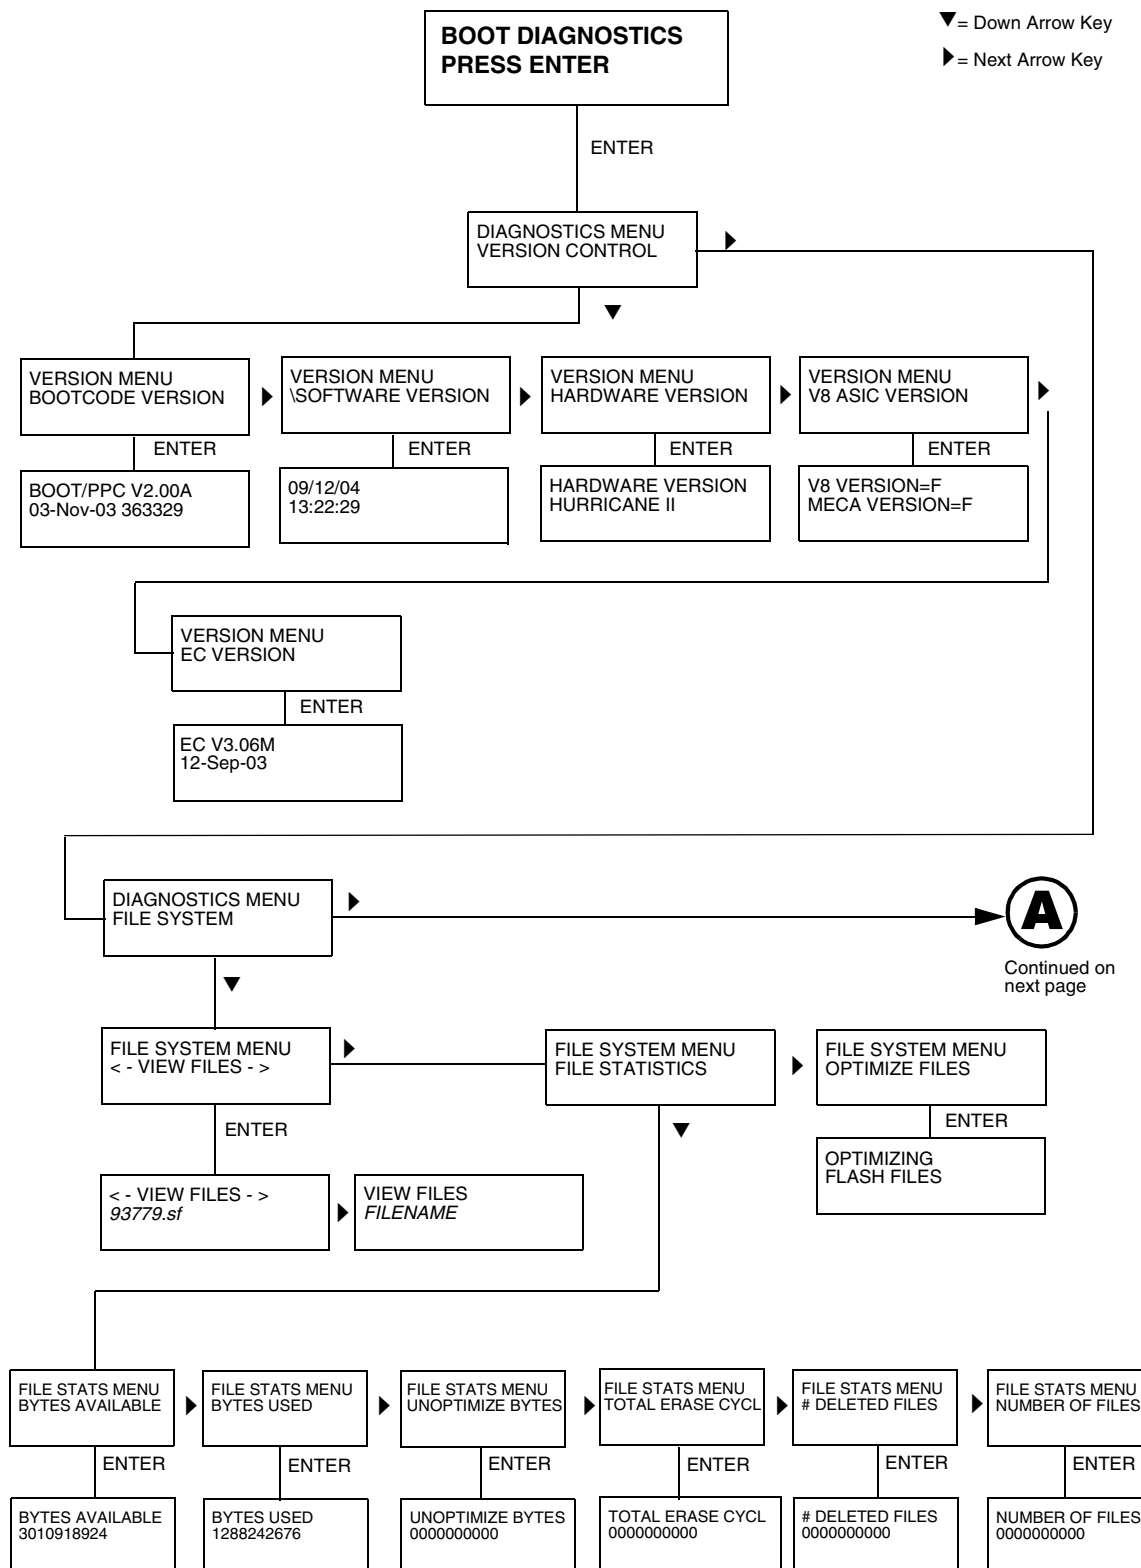

Figure 8. Boot Diagnostics Menu
The boot diagnostics menu is a multi-level menu that operates the same way as the user menus. The menu structure is shown in Figure 8 on page 148.
4. When “BOOT DIAGNOSTICS / PRESS ENTER” appears on the LCD, release the ◀ + ▼ keys and press the **ENTER** key. Menu options are shown in Figure 8.